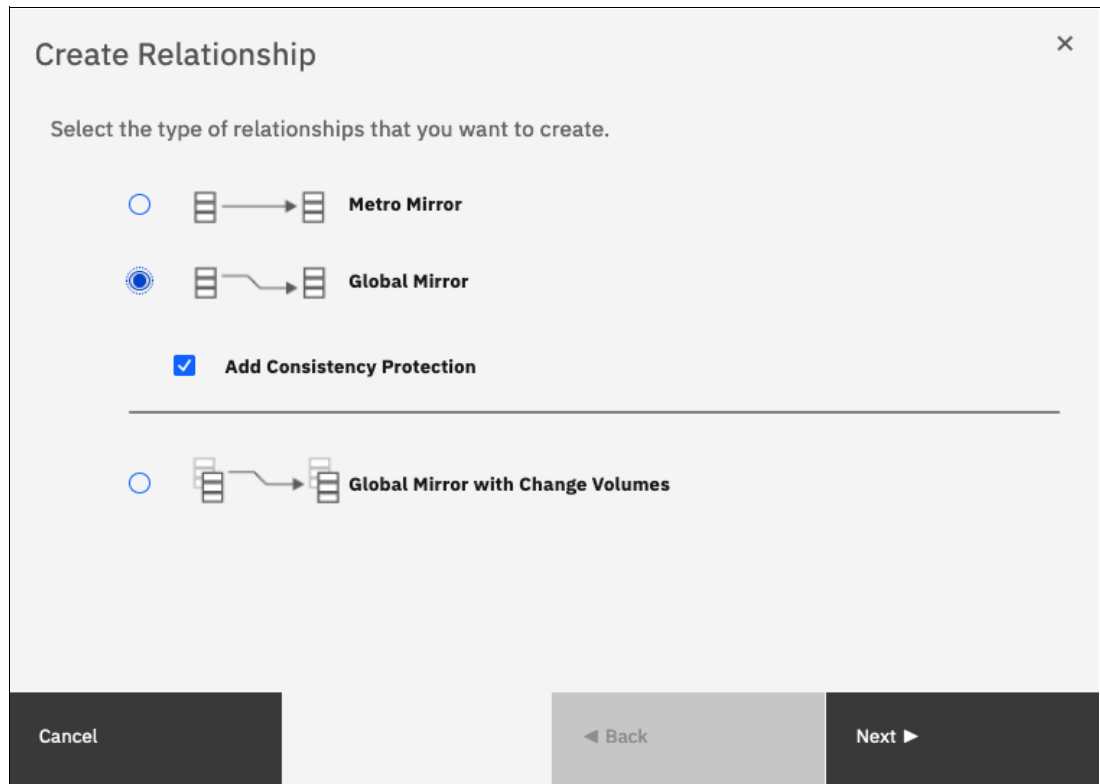

Figure 10-116 Creating a Remote Copy relationship
5. In the Create Relationship window, select one of the following types of relationships that you want to create, as shown in Figure 10-116: